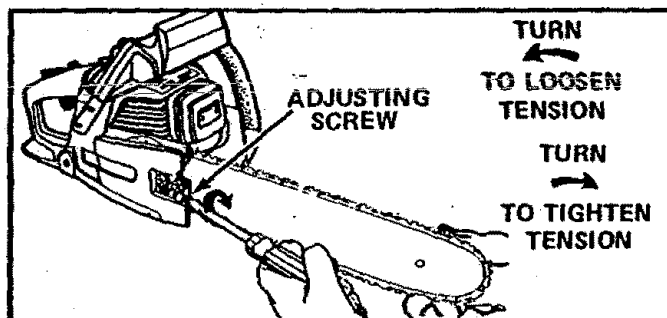

Figure 14
1. Hold the tip of the Guide Bar up and turn the Adjusting Screw just until the chain does not sag beneath the Guide Bar. Figure 14.